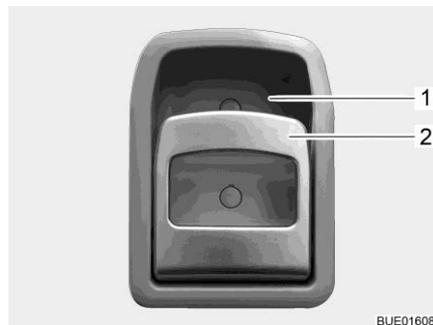

Fig. 69 Door lock (conversion door, inside)
- Pull on the handle (Fig. 69,2). The door lock is unlatched or opened.
- Press the upper part of the handle (Fig. 69,2) in the direction of the recessed handle (Fig. 69,1). The door lock is locked.